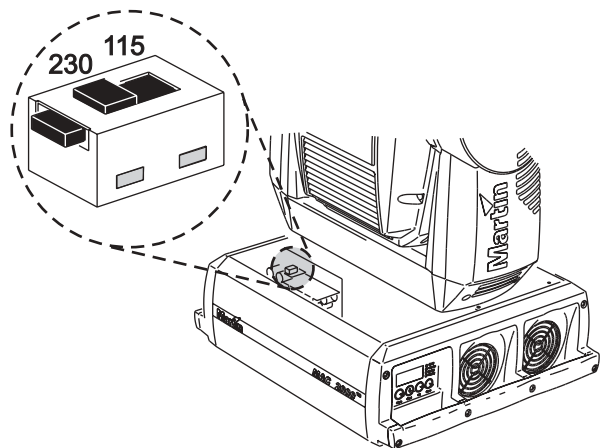

Figure 5: Power supply switch
- 3 The power supply switch is located in the base unit at the end furthest from the display (see Figure 5).